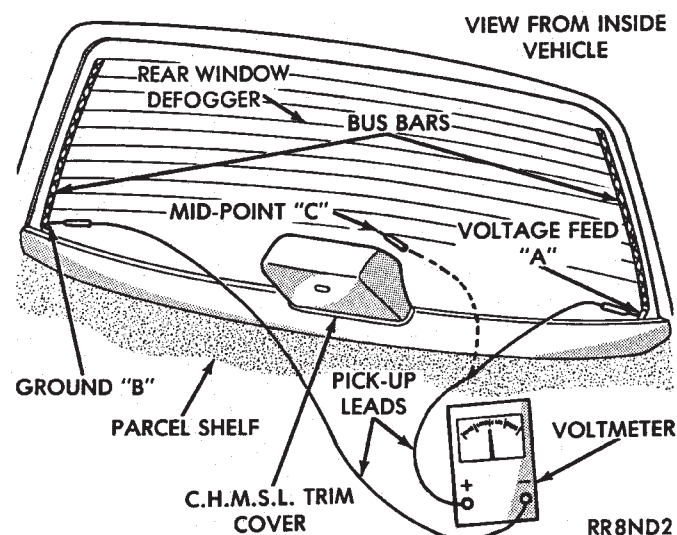

Fig. 2 Rear Glass Grid Line Test — Typical
- (1) Turn ignition ON.
- (2) Turn rear window defogger control switch ON.
- (3) Using a ammeter on the battery. Turn the Defogger control switch ON, a distinct increase in amperage draw should be noted.
- (4) The rear window defogger operation can be checked by feeling the glass. A distinct difference in temperature between the grid lines and adjacent clear glass can be detected in three to four minutes of operation.
- (5) Using a DC voltmeter (Fig. 2) contact terminal B with the negative lead, and terminal A with the positive lead. The voltmeter should read 10-14 volts.
The horizontal grid lines and vertical bus bar lines printed and fired on inside surface of rear window glass (Fig. 2) comprise an electrical parallel circuit. The electrically conductive lines are composed of a silver-ceramic material which when fired on glass becomes bonded to the glass and is highly resistant to abrasion. It is possible, however, that a break may occur in an individual grid line resulting in no current flow through the line. To detect breaks in grid lines the following procedure is required:
(1) Turn ignition ON and turn control switch to ON. The indicator light should come on.
(2) Using a DC voltmeter with 0-15 volt range, contact terminal B with negative lead of voltmeter. With positive lead of voltmeter, contact terminal A (Fig. 2). The voltmeter should read 10-14 volts. A lower voltage reading indicates a poor ground connection.
(3) With negative lead of voltmeter, contact a good body ground point. The voltage reading should not change.
(4) Connect negative lead of voltmeter to terminal B and touch each grid line at Mid-Point with Positive lead. A reading of approximately 6 volts indicates a line is good. A reading of 0 volts indicates a break in line between Mid-Point C and terminal A. A reading of 10-14 volts indicates a break between Mid-Point C
and terminal B. Move toward break and voltage will change as soon as break is crossed (Figs. 2 and 3).